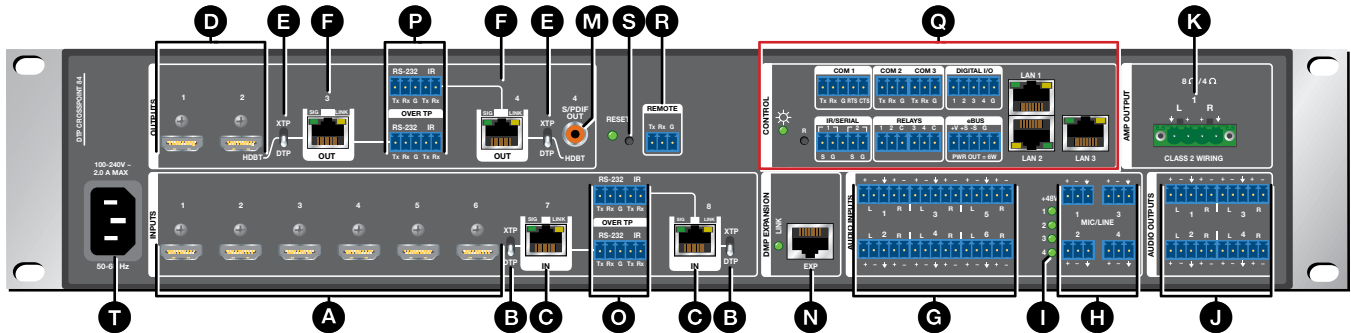
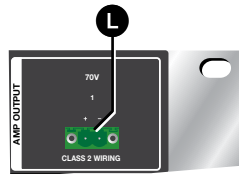

Figure 2. DTP CrossPoint 84 IPCP SA (Stereo Audio) Matrix Switcher Rear Panel
Figure 3. DTP CrossPoint 84 IPCP MA (Mono Audio) Amplified Output Block
The SA and MA models have similar features, with differences in the Amplified Output block only. Figure 2 shows the rear panel of a DTP CrossPoint 84 IPCP SA. Figure 3 shows only the Amplified Output block portion of the DTP CrossPoint 84 IPCP MA rear panel.
- L** Amp Output 1 (see figure 3 and page 14)
See figure 2 on the previous page for ● numbers.
See **figure 2** and **figure 3** on page 11 for ● numbers. For inputs and outputs on captive screw connectors (**G**), (**H**), and (**J**) the connectors are included with the switcher, but you must supply the audio cable.
See figure 2 on page 11 for ● numbers.